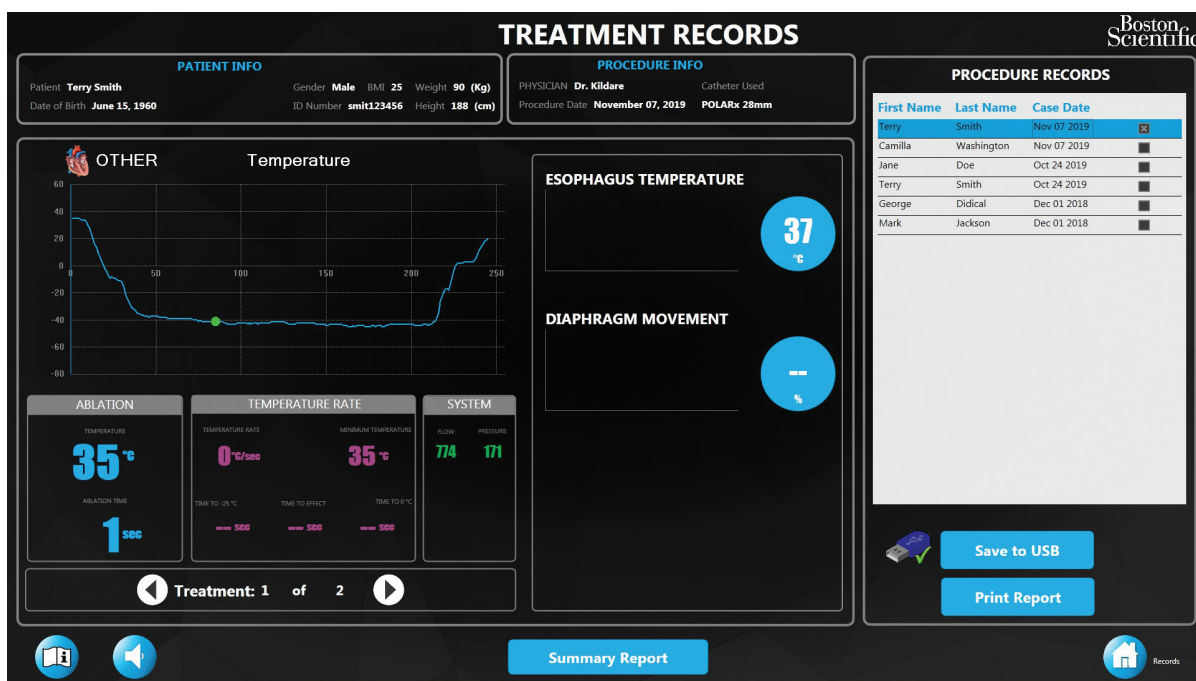

Figure 27. Treatment Records screen
If the entered user name and password have the necessary rights, the Treatment Records screen is displayed (Figure 27).
6. If more than one treatment was performed during the selected case, use the **Treatment** arrows (Figure 27) to display data from the different treatments performed.